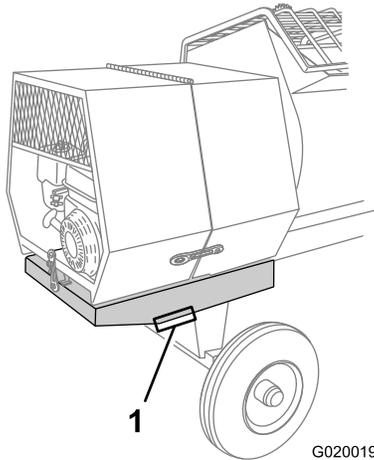

Figure 27
3. Use a jack stand at each support point on the rear frame extension (Figure 27).